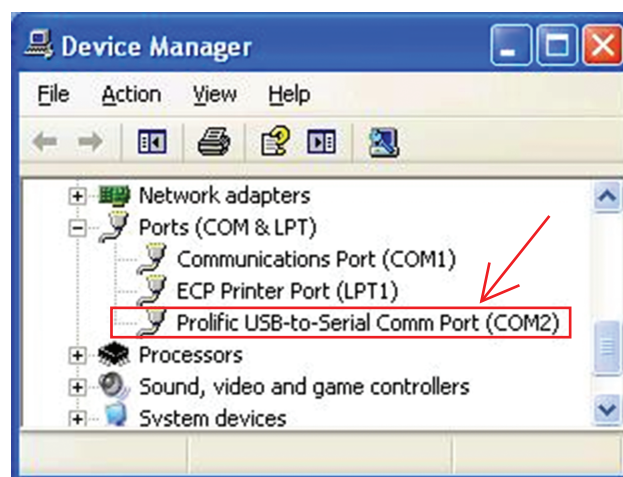

Figure 3. DS9481R-3C7 COM Port
- 13) Determine the COM port by looking in **Control Panel** → **System** → **Hardware** tab → **Device Manager** and expand **Ports (COM & LPT)**. The port is **Prolific USB-to-Serial Comm Port (COM2)**. See Figure 3.